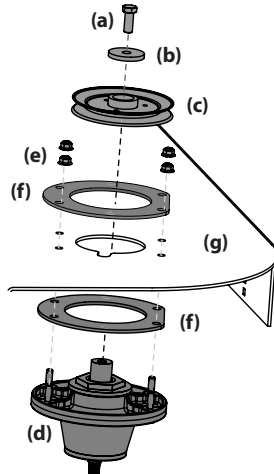

Figure 4-19
6. Remove the hex lock screw (a) and flat washer (b) securing the spindle pulley (c) to the spindle assembly (d). See Figure 4-19.
7. Remove the four (4) flange lock nuts (e) securing the spindle assembly (d) and the two support plates (f) to the deck shell (g). See Figure 4-19.
8. Reverse the process to install the spindle assembly. When installing the new spindle assembly be sure to install the hardware exactly as shown in Figure 4-19. Torque the hex lock screws (a) to 90-110 ft-lbs. and the flange lock nuts (e) to 13-20 ft-lbs.